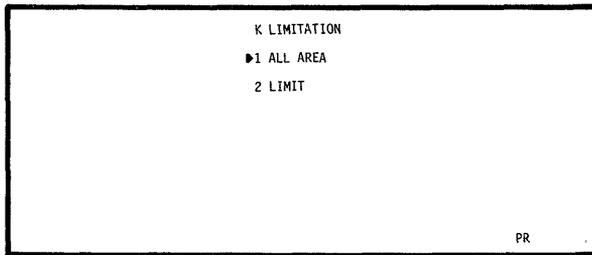

Fig. 14.9
- Screen shown in Fig. 14.9 is displayed.